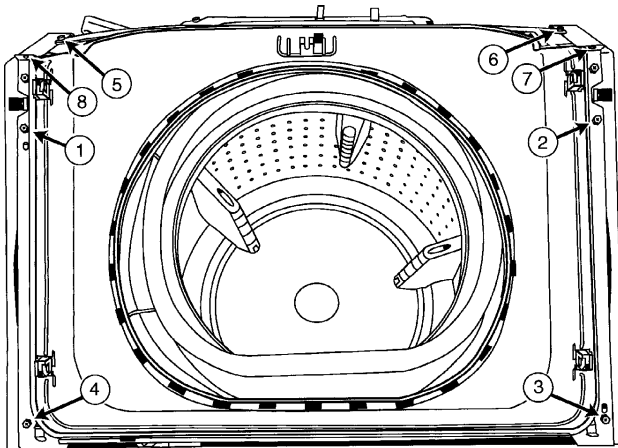

Figure 5-10
4. Removal and replacement of the screws in the following order, as illustrated, is necessary to provide proper alignment of the parts. Failure to do so will hinder removal and replacement of the shroud onto the cabinet (Figure 5-10).